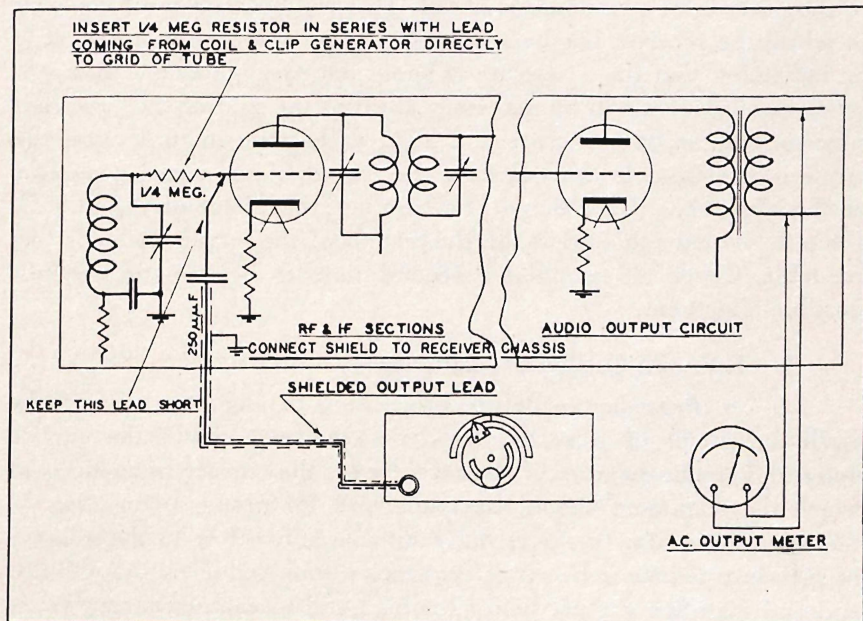

Fig. 3 — METHOD OF CONNECTING SIGNAL GENERATOR TO RADIO RECEIVER FOR ALIGNMENT
*b. Method of Connection.* — With the output meter connected across the audio output of the receiver as shown in figure 3, disconnect the lead from the control-grid terminal of the first detector tube. Place an isolating,  $\frac{1}{4}$ -megohm resistor in series with this lead and the terminal from which it was removed. This resistor will minimize the effect of the tuned circuit upon the stage under test while maintaining proper bias on the grid. Connect the signal generator to the grid through a  $250\mu\text{mf}$  capacitor in series with the output lead of the signal generator and connect the shielded braid of the signal generator output lead to the receiver chassis as shown in figure 3.